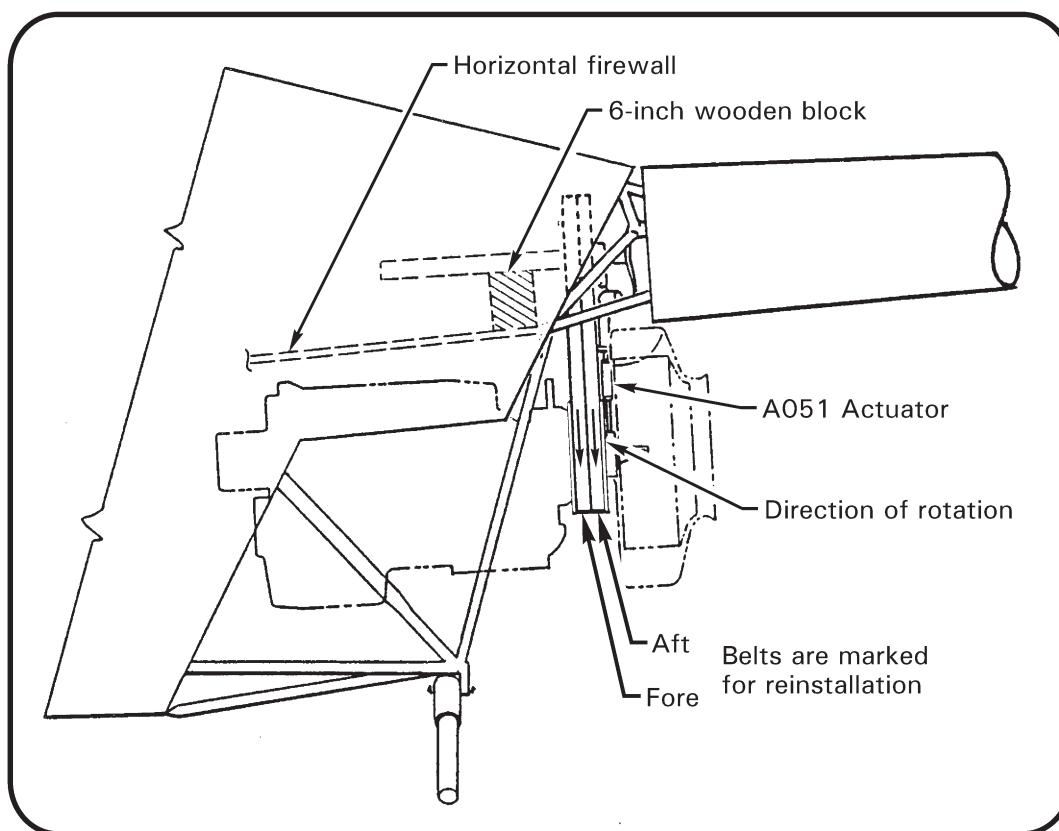

FIGURE 7-8 V-BELT AND ACTUATOR REMOVAL
- b. Fully disengage belt tension actuator. Place a six-inch wooden block between clutch shaft and horizontal firewall per Figure 7-8. Block will prevent excessive sheave drop and protect forward flex plate.